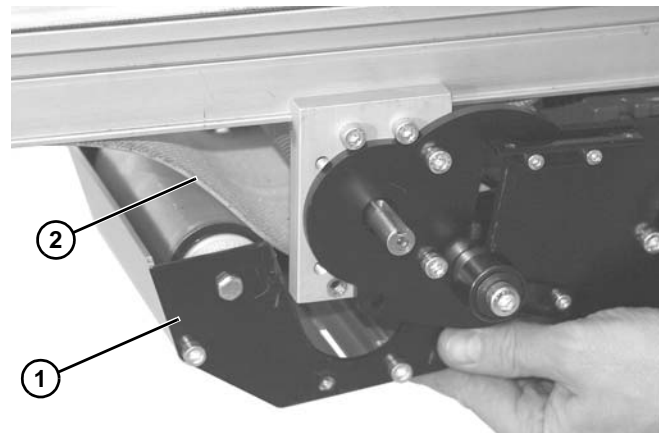

Figure 46
3. Lower and remove mid drive module (**Figure 46, item 1**) from belt (**Figure 46, item 2**).